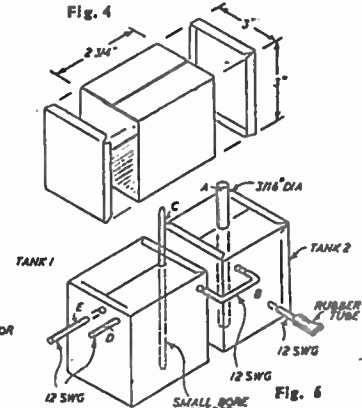

Fig. 6
The piping assembly is then shown in Fig. 6. Use a fairly thick pipe for tube (A) and a narrow bore copper pipe for (C).